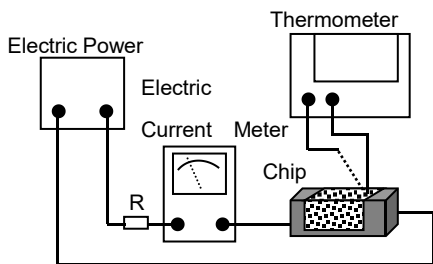

Fig. 5.3.3-1
- Definition of Rated Current ( $I_r$ ):  $I_r$  is direct electric current as chip surface temperature rose just  $40^{\circ}\text{C}$  against chip initial surface temperature( $T_a$ ) (see **Fig. 5.3.3-2**).